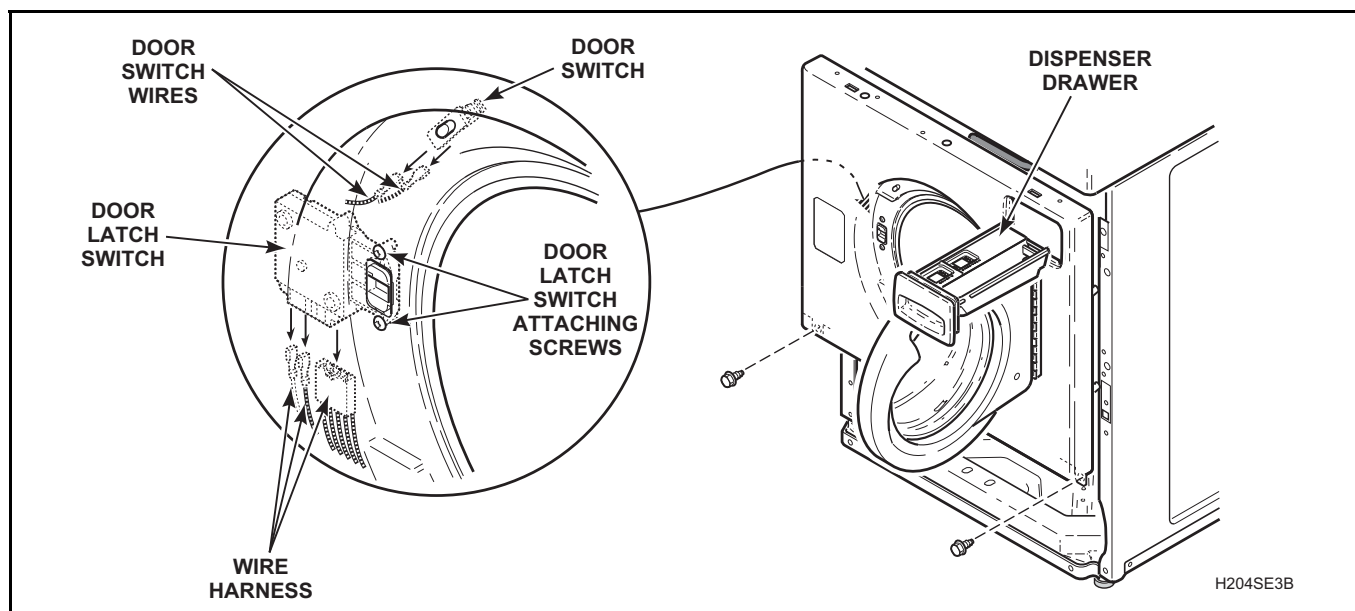

Figure 36
- While supporting door lock from behind (through door opening), remove two Phillips head screws holding door latch switch to front panel. Refer to *Figure 36*.
- Gently pull door lock out through door opening. Remove door lock only far enough to disconnect harness connector from door lock. Refer to *Figure 36*.